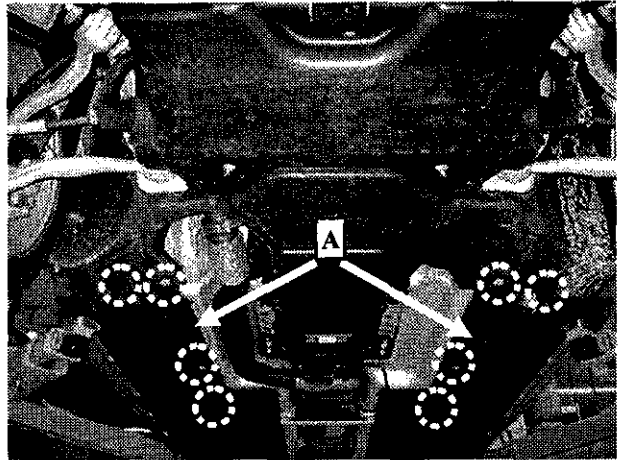

Figure 1
1. Remove screws or nuts (circled, Figure 1) to loosen left and right under-floor paneling (A).